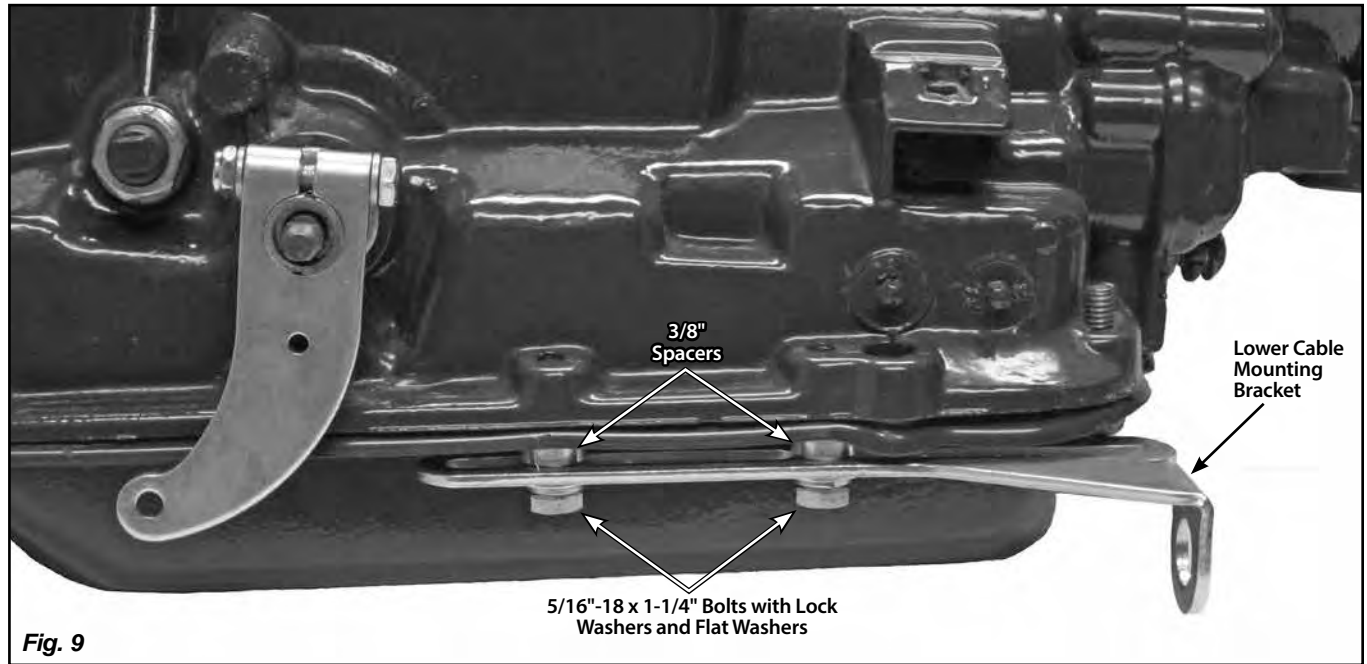

Fig. 9
Step 8: Install the lower cable mounting bracket on the left side of the transmission pan, using the provided 5/16"-18 x 1-1/4" bolts with lock washers, flat washers, and 3/8" spacers. The C6 uses the two pan bolts directly behind the selector shaft. **Fig. 9**